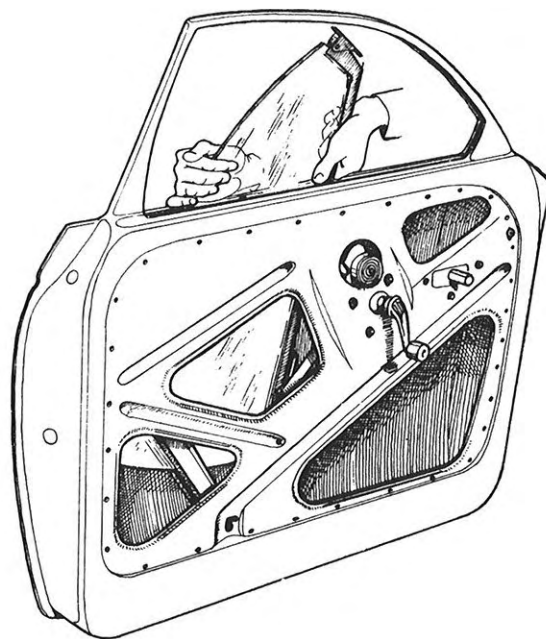

Fig. 2. Removal of door window
4. Turn the window so that the hinge comes on top and free the window guide slot from the pin. The window is now free and can be lifted out of the door, see Fig. 2.